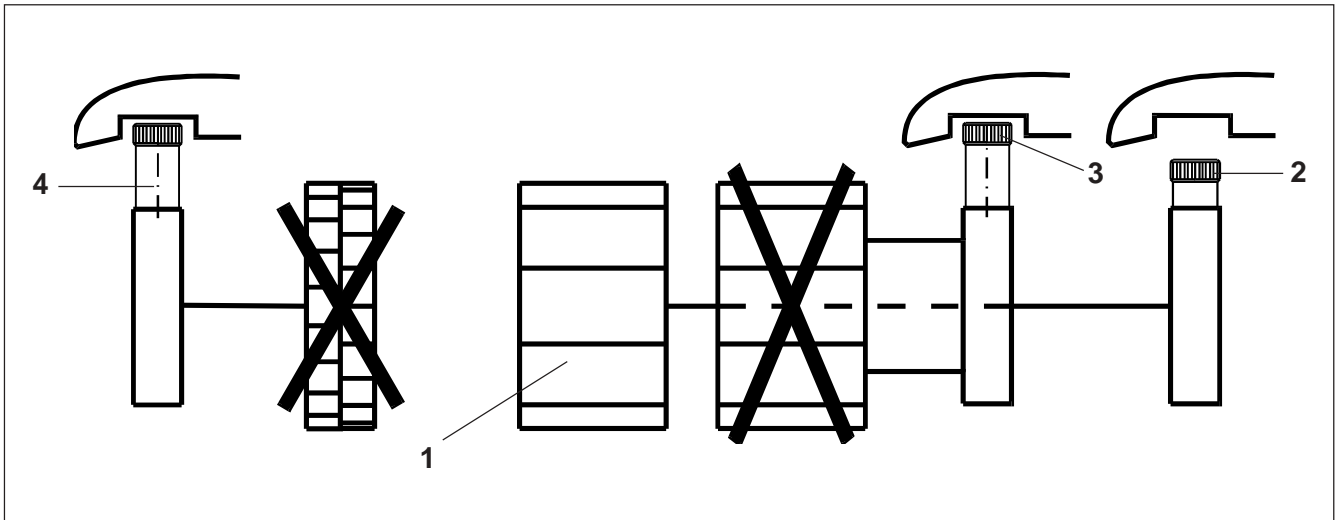

Fig. 20.7
Sowing by the white coloured main metering wheel (Fig. 20.7/1):
- Drive in coupling screws (Fig. 20.7/2) of the white coloured main metering wheel.
- Drive out coupling screw (Fig. 20.7/3) of the orange coloured main metering wheel.
- Drive out coupling screw (Fig. 20.7/3) of the fine seed metering wheel.